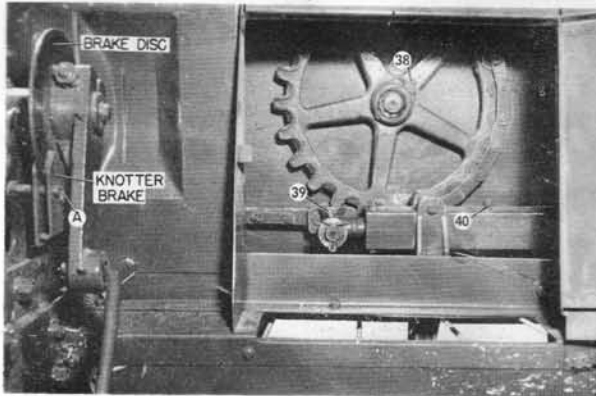

FIGURE 9
38. Figure 9—Sprocket
40. Figure 9—Tine bar. Grease sparingly.